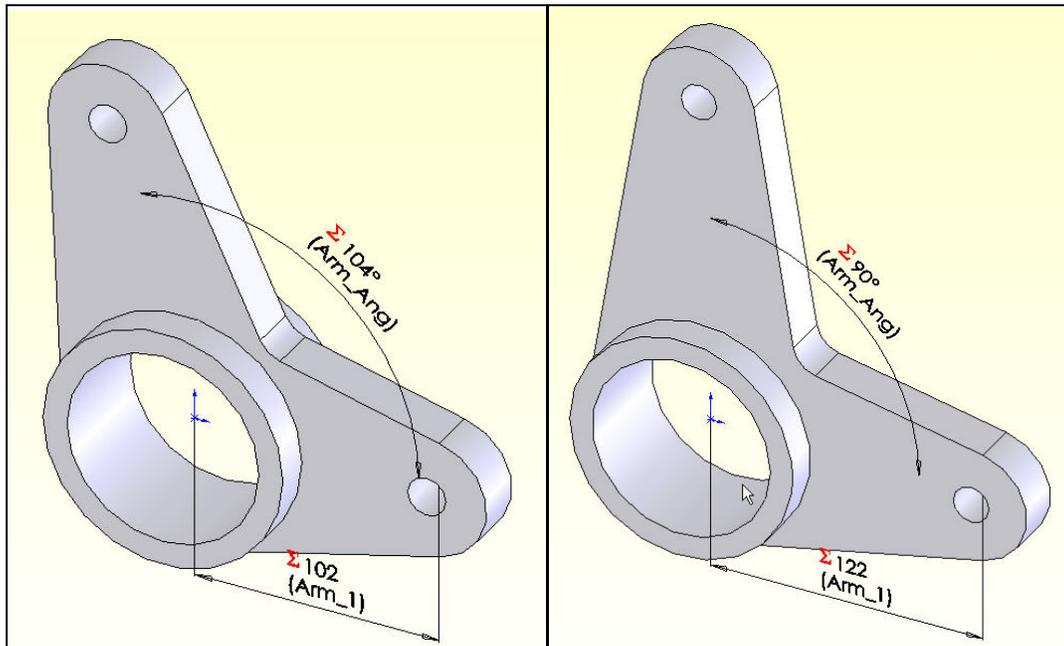

Figure 14 Two finished parametric solids
5. **Cut** a hole of 90, centered on the origin, and the parts are finished (see Figure 14).